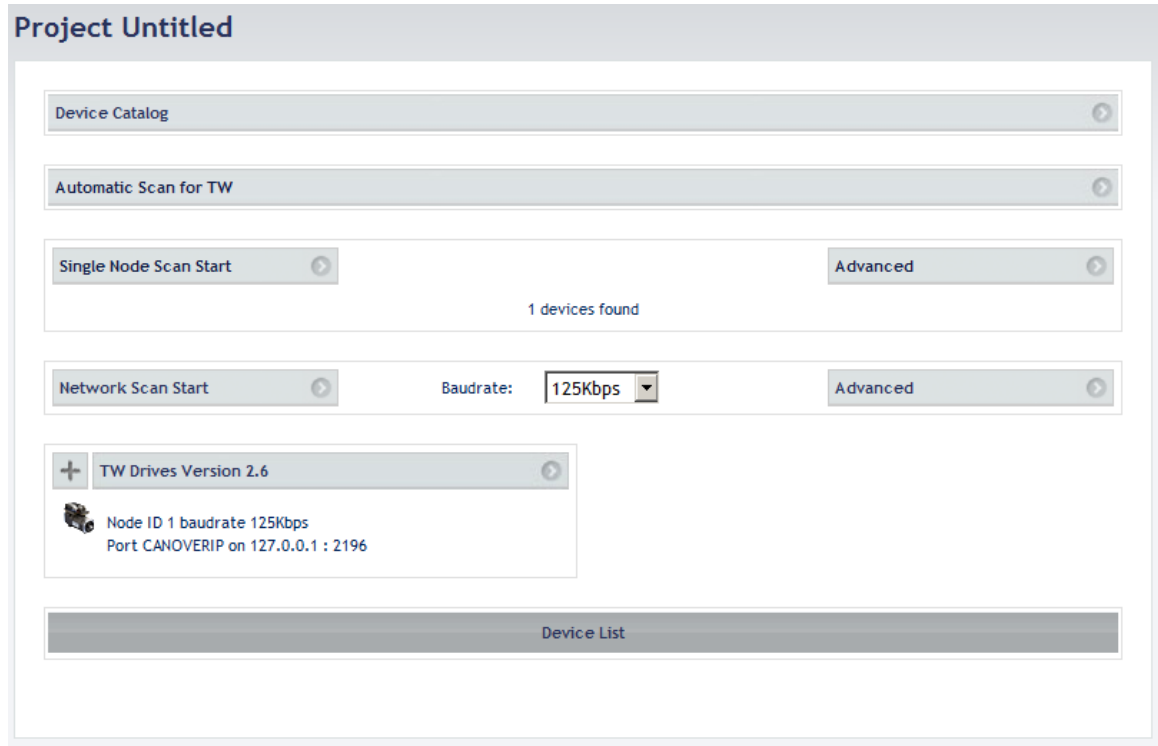

Figure 17 – Single node scan result
- Once the device is found out, the procedure will stop immediately, and the device will be shown below the “Automatic Scan” bar in Figure 17.